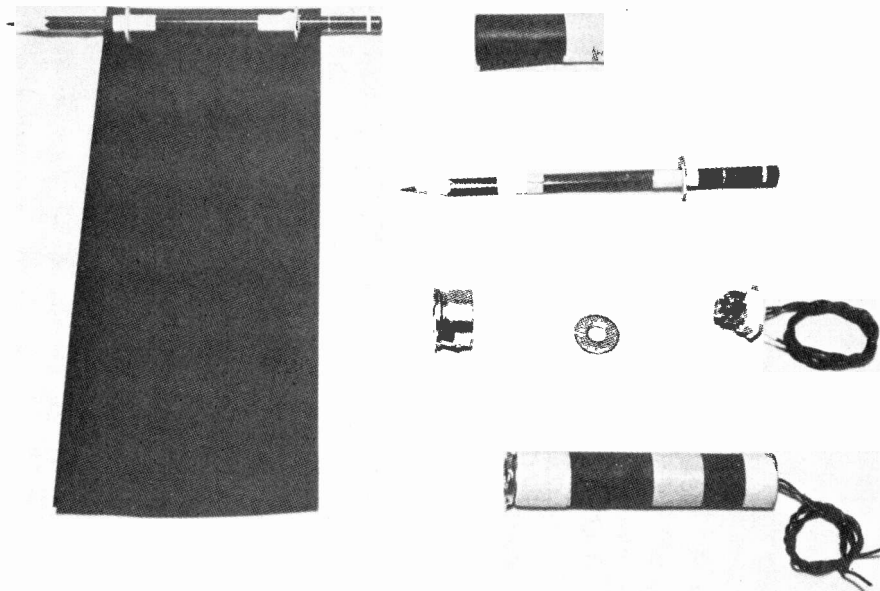

Fig. 2. Photo shows how to make light shield out of black construction paper. Base from a 9-pin shielded tube socket is used as a mounting bracket.
**Construction.** To construct the light shield, use a piece of 8" x 4" (20.3 x 10.1 cm) matte black construction paper. Form a tube by rolling it around two 3/4" flat washers. Insert a washer inside the paper tube at the halfway point and perpendicular to the central axis. Drop in a small amount of glue to secure it in place. Use tape to hold the tube together, as shown in Fig. 2.